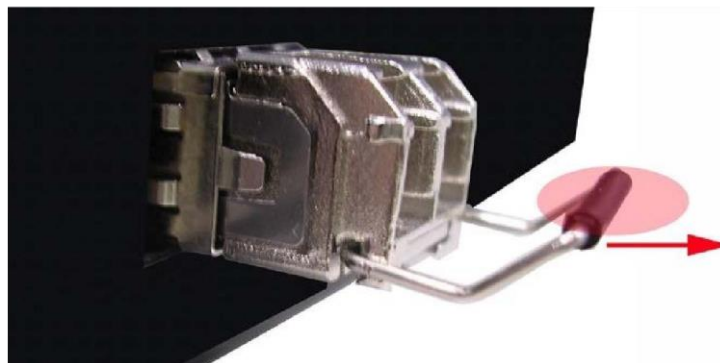

Figure 2.10
2. Push down the metal clasp and pull the transceiver out by the plastic part as shown below in *Figure 2.10*.